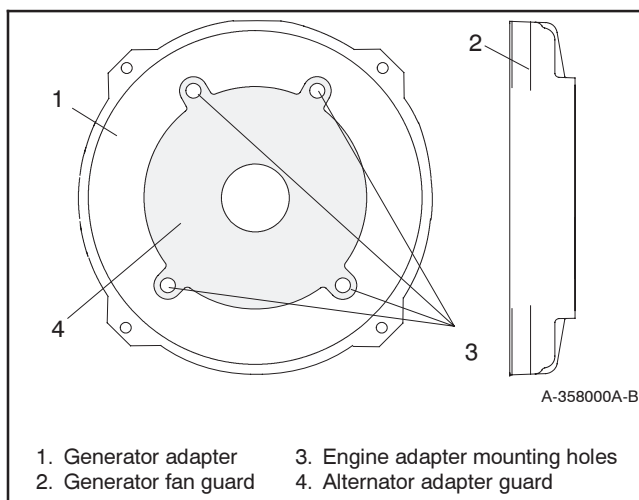

Figure 7-13 Generator Adapter
8. Remove the four engine adapter mounting bolts. See Figure 7-13. Remove the generator adapter.
- a. Attach the generator adapter and alternator adapter guard to the engine using four 7/16-14 x 1.0 hex cap bolts and washers. See Figure 7-13.